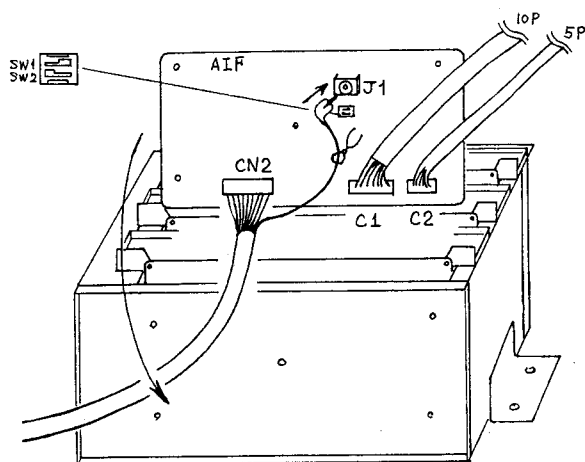

Fig. 5
Note: Please check the position of switches SW1 and SW2 (see figure 5), For model FS-200X set switch 1 to the right and switch 2 to the left (when viewed in mounted position).
9. Connect one end of the 10 pin socket to connector C1 of the AIF board as shown in figure 5 (leave the other end free, This will be connected in step #15).
10. Connect one end of the 5 pin socket to connector C2 of the AIF board as shown in figure 5 (leave the other end free, This will be connected in step #17).
11. Now, install the AIF circuit board as shown in figure 5.